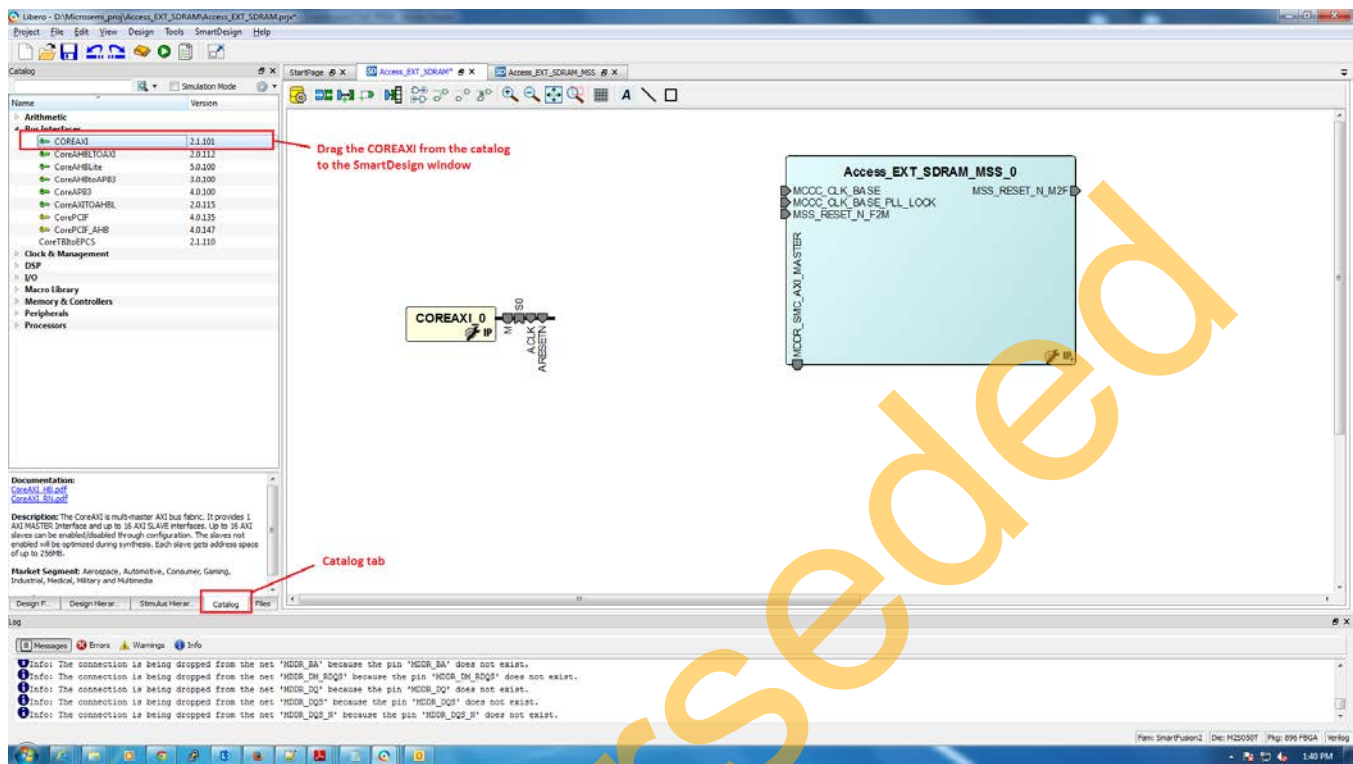

Figure 15. CoreAXI IP from the Catalog
1. Select the **CoreAXI** IP from the Bus Interface sub-section of the IP Catalog, as shown in Figure 15, and drag it onto the **Access_EXT_SDRAM SmartDesign** tab.